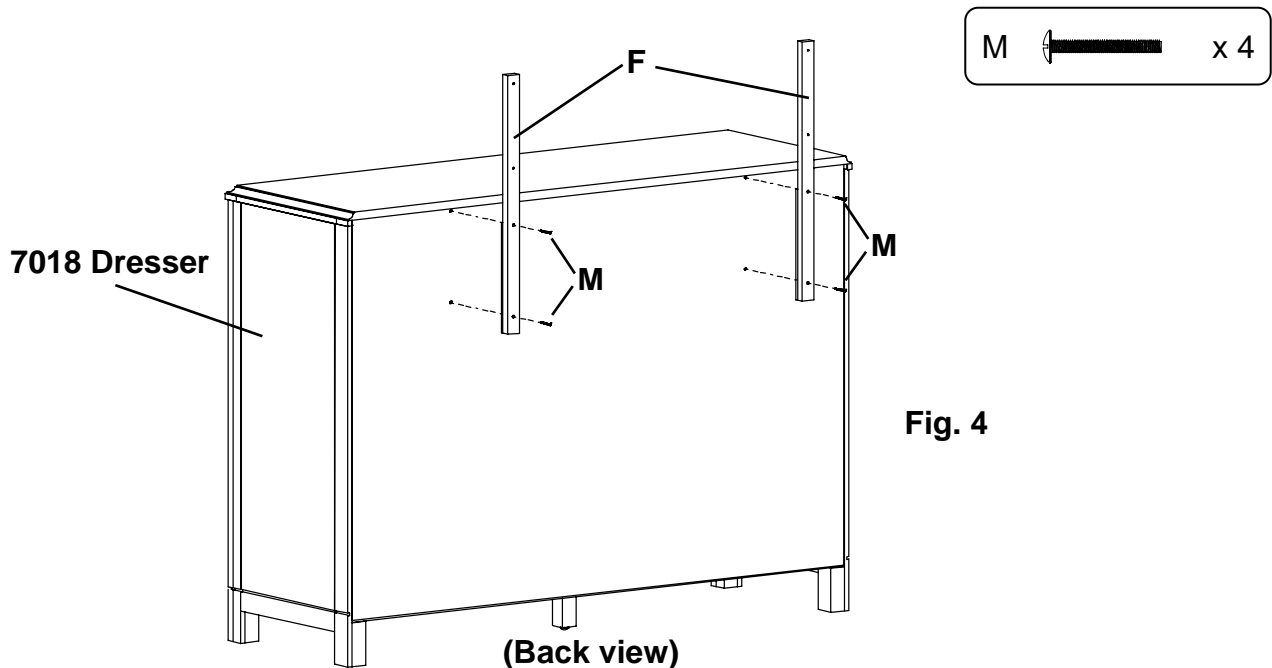

Fig. 4
4. If you are attaching the Northgate Mirror to the back of a 7018 Northgate 8-Drawer Dresser, follow steps 4-6. Using the predrilled holes on the back of the Dresser as guides, attach the two Mirror Supports (F) with four M4 x 41 Machine Screws (M). See Figure 4.